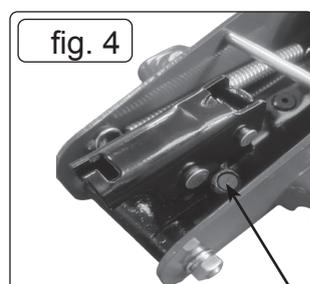

fig. 4
6.3. CHECKING THE OIL LEVEL (fig.4)